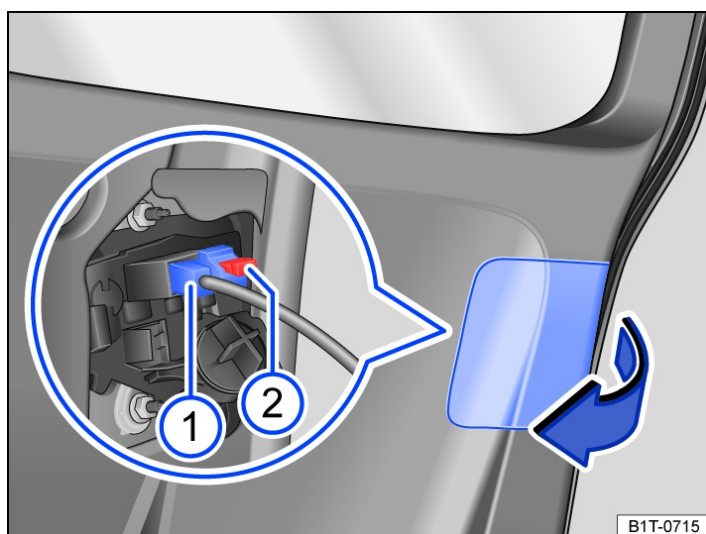

Fig. 1 In the tailgate: removing the cover.
3. Carefully prise off the cover in the direction of the arrow, if necessary using the flat blade of a screwdriver → Fig. 1.
4. Remove the fuse → Fig. 1 ①. Press the red catch → Fig. 1 ② on the connector and pull off the connector.